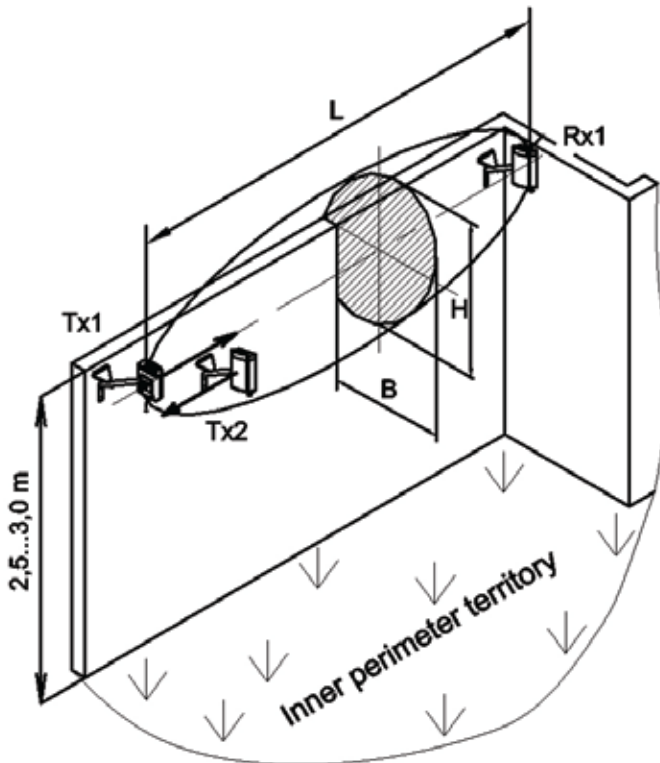

Fig.2.4
2.2.5. The mounting kit (MK) for mounting on the top of the fence can be delivered on the customer order to protect the perimeter site from the intruder climbing over the fence and the intrusion into the window. The example of the sensor installation with the brackets application 350, 500 mm is given in fig. 2.4. The detection zone sizes are shown in Table 2.1. The angles to turn horizontally the sensor units on the brackets are 180°, vertically: up – at the angle of 17°, down - 45°.